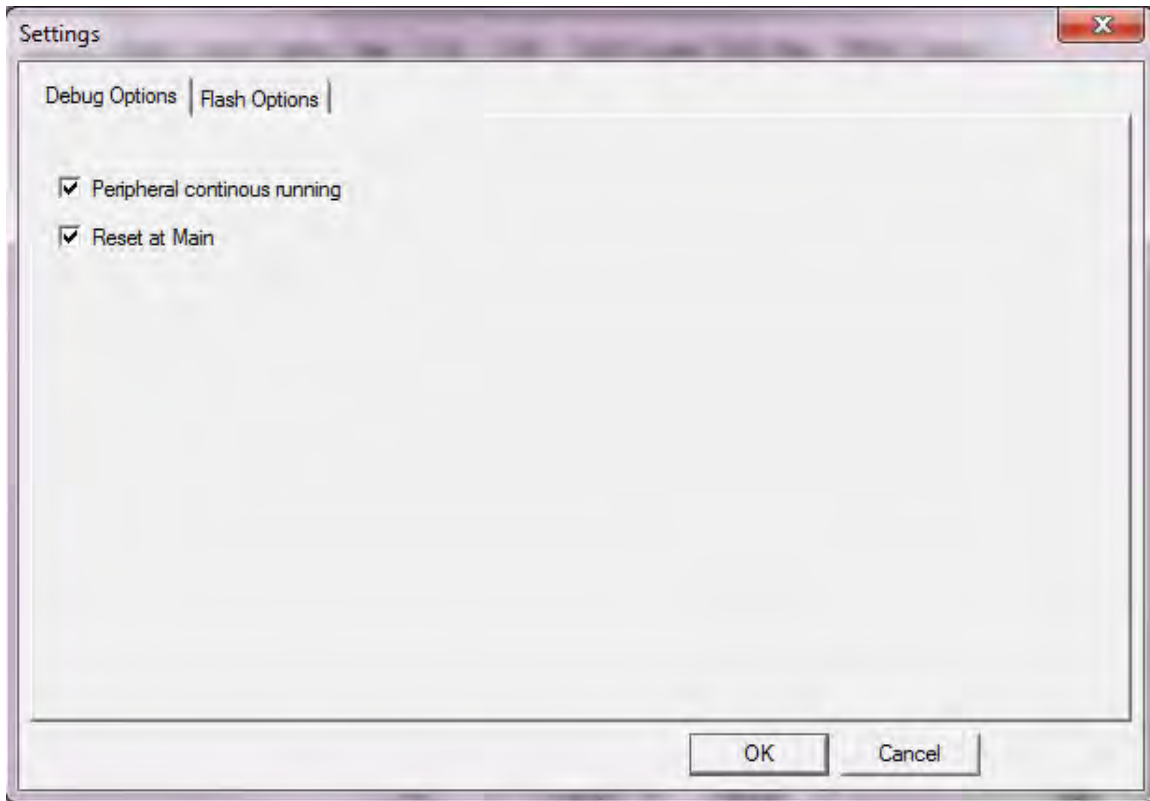

Figure 26. Configuring the Debug Options
7. Click the **Settings** button, located to the right of this drop-down menu, to configure your Debug and Flash options. The Settings dialog is displayed with the Debug Options tab appearing by default, as shown in Figure 26.